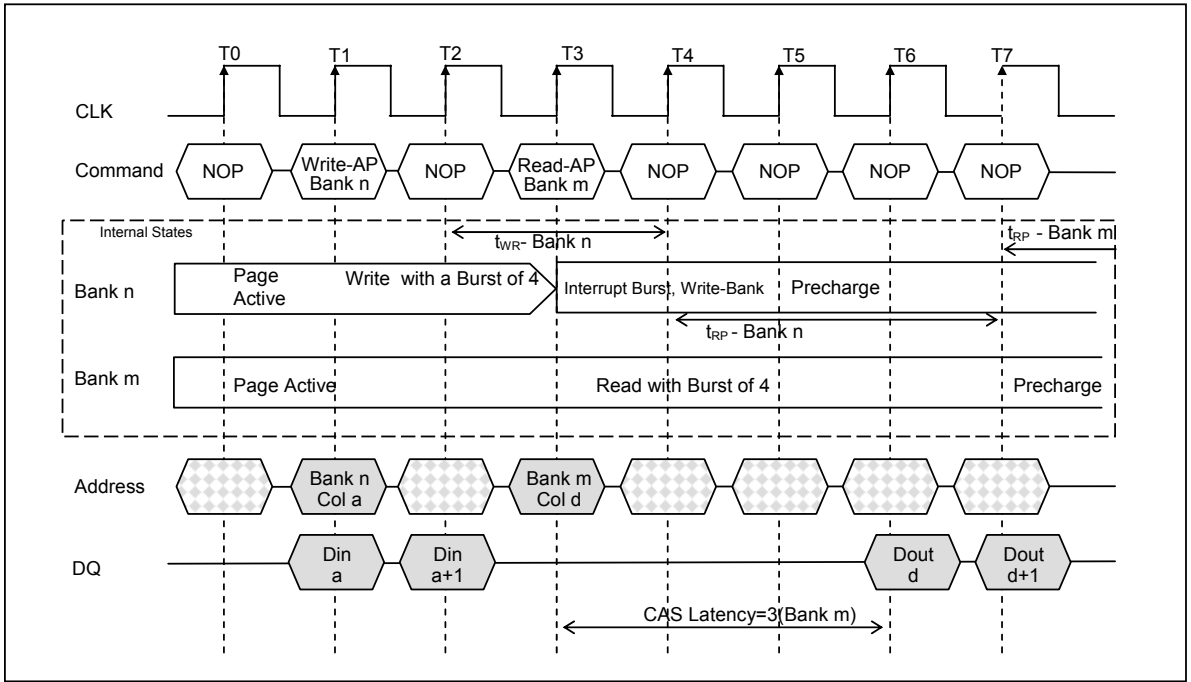

Figure 27. Write with Auto Precharge Interrupted by a Read with Auto Precharge (CAS Latency =3)
3. Interrupted by a Read (with or without auto precharge): A Read to bank m will interrupt a Write on bank n when registered , with the data-out appearing CAS latency later. The Precharge to bank n will begin after t_{WR} is met, where t_{WR} begins when the Read to bank m is registered. The last valid Write to bank n will be data-in registered one clock prior to the Read to bank m.(Figure 27.)